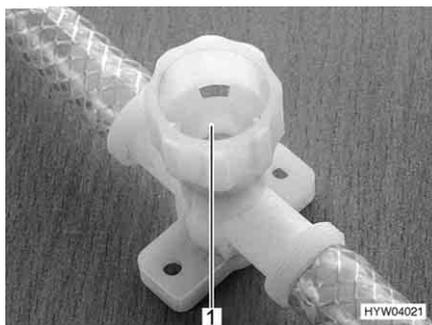

Fig. 160 Drain cock for hot water source
- Close all drain cocks. To do this, close the caps (Fig. 160,1) by turning them in a clockwise direction.
- Open all drain cocks of the hot water source. To do this turn the caps (Fig. 160,1) in an anticlockwise direction.